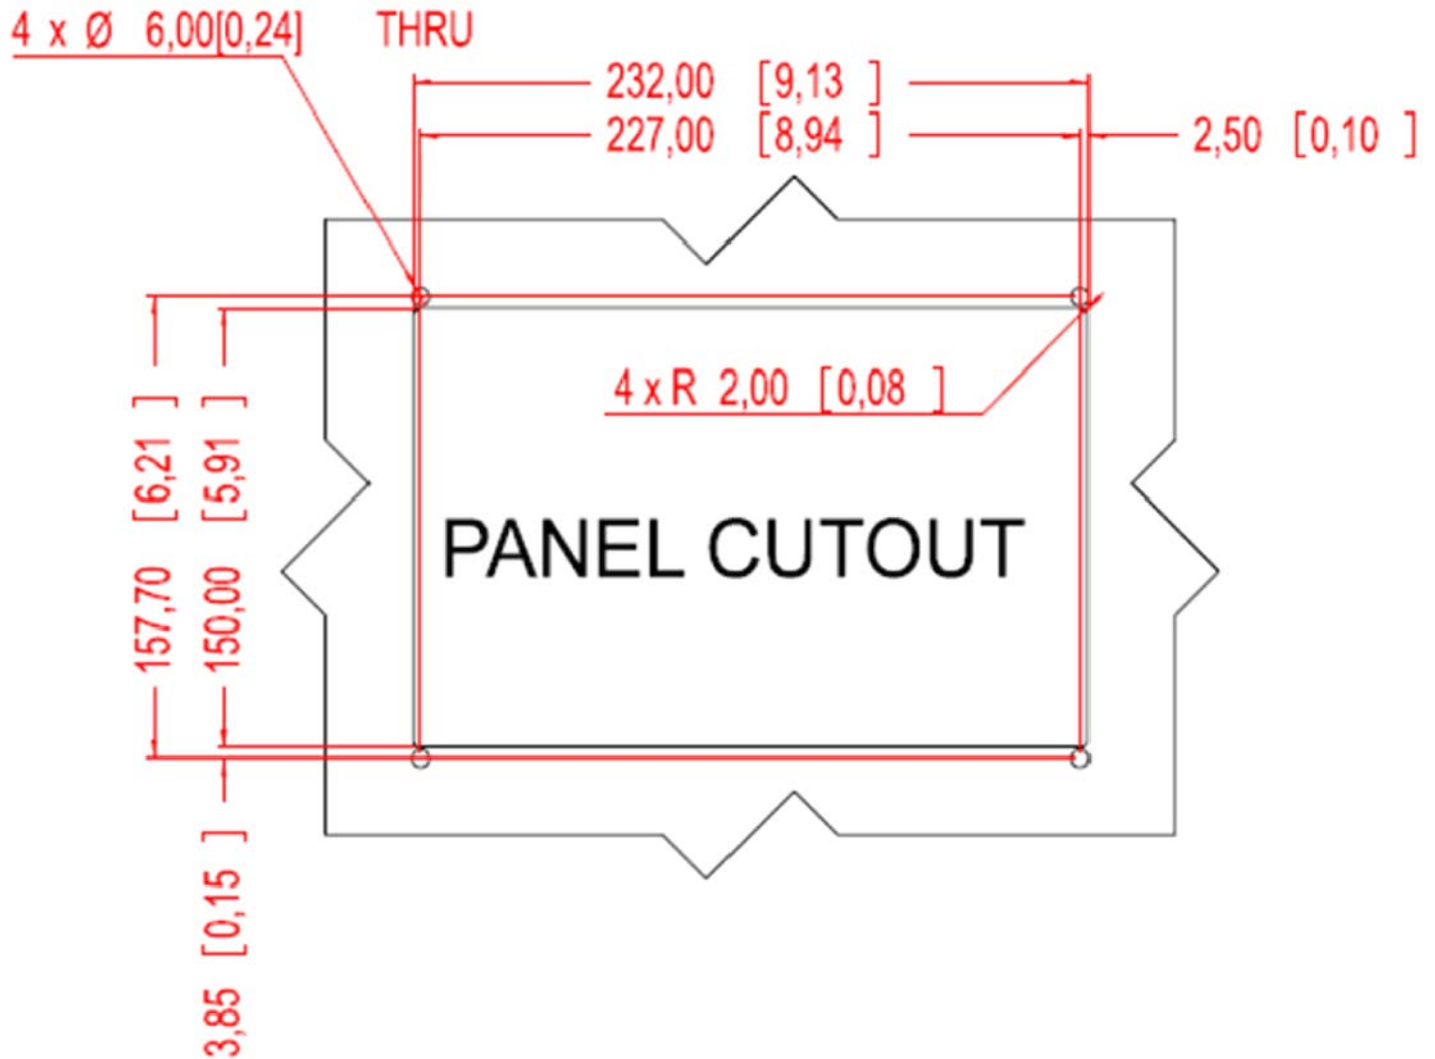

Figure 2 – TSM800 Cutout Dimensions (units in mm [inches])
- Step 2:** Cut out a section from the panel that corresponds to the rear panel dimensions of the TSM800. Take care that the panel section that is cut out is smaller than the overall size of the front panel of the TSM800 but just large enough for the rear panel of the TSM800 to fit through, according to the dimensions in Figure 2 above.
- Step 3:** Drill four 6mm holes for the M5 studs protruding from the four corners of the front panel according to the dimensions in Figure 2 above.